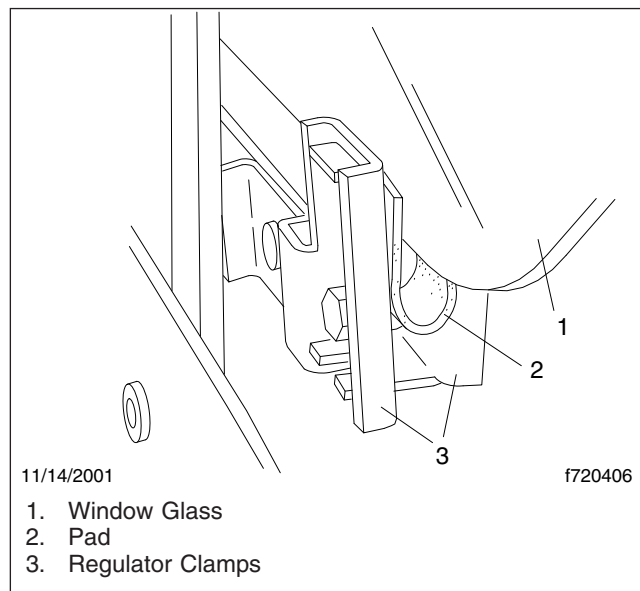

Fig. 4, Window Glass (bottom edge)
8. While supporting the glass, loosen the regulator clamps at the bottom edge of the window glass. See Fig. 4.